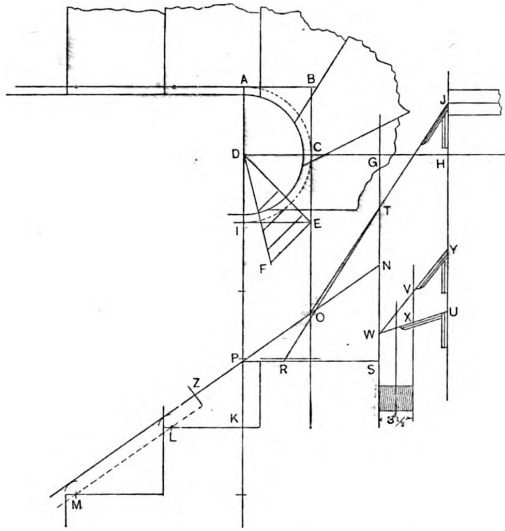

Fig. 86.—Plan with Four Risers in Cylinder.
**Fig. 86.**—Let A B C E I be the line of tangents. From D stretch out the tangents as shown, making three spaces equal to D C, D H being the floor line. From D drop four risers contained in the cylinder at K. From K draw the elevation of steps and risers outside the cylinder. Locate the short balusters as shown at L M by the dotted line. From this line set off half the thickness of the rail, and draw the tangent from these points extending to N. From the floor line at H set up  $\frac{1}{4}$  inches to the center of the rail on the landing at J, and connect O J, giving the length of tangents. For major length of mold let S R equal E D and connect R T, giving length required. For the minor length proceed in the usual way, as shown at D E F; this needs no further explanation.